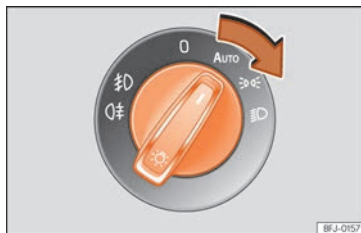

Fig. 94 Dash panel: lights control.
- Turn the switch to the required position »» **Fig. 94**.